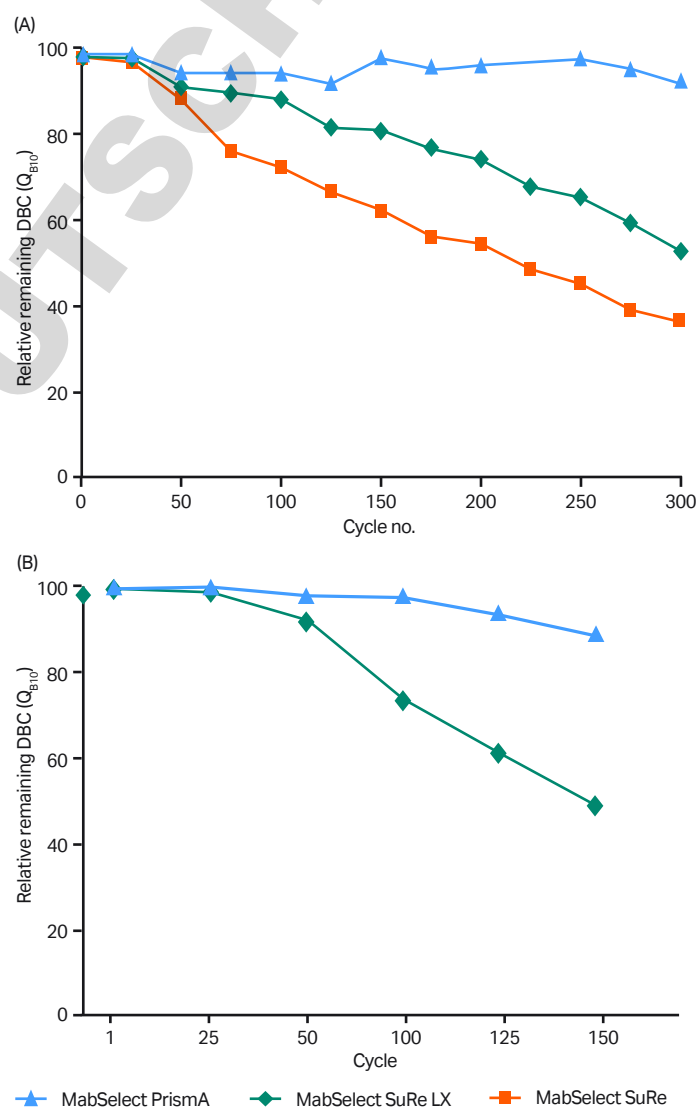

Fig 13. Relative remaining DBC using (A) 0.5 M NaOH and (B) 1.0 M NaOH as cleaning agent at 15 min contact time between cycles.
Figure 13 shows relative remaining DBC of MabSelect PrismA as compared with MabSelect SuRe and MabSelect SuRe LX over repeated CIP cycles. As shown, MabSelect PrismA retains more than 90% of its initial DBC after more than 150 cycles with 1.0 M NaOH, while only 50% of the initial DBC of MabSelect SuRe LX remains after an equivalent number of CIP cycles. Using 0.5 M NaOH, MabSelect PrismA retains more than 93% of its initial DBC after 300 cycles (6).